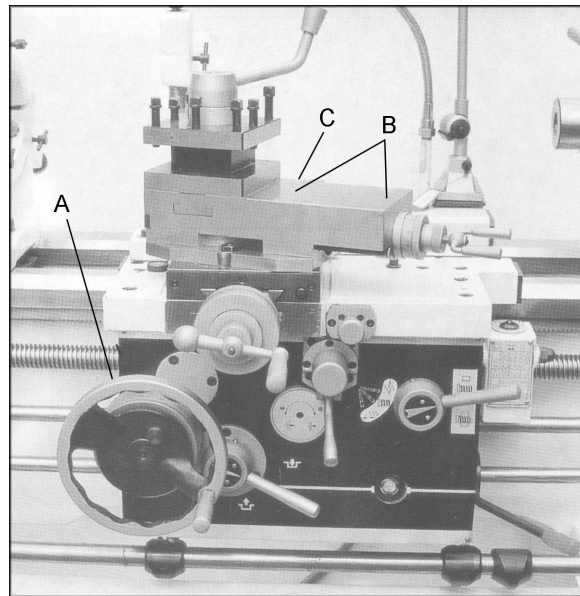

Figure 7
5. **Saddle** – Daily lubricate ball oiler (A, Figure 7) on handwheel shaft with Mobil DTE® Oil Heavy Medium.
6. **Compound Rest** – Daily lubricate two ball oilers (B, Figure 7) on top of compound slide with Mobil DTE® Oil Heavy Medium.
7. **Cross Slide** – Daily lubricate one ball oiler (C, Figure 7) with Mobil DTE® Oil Heavy Medium.